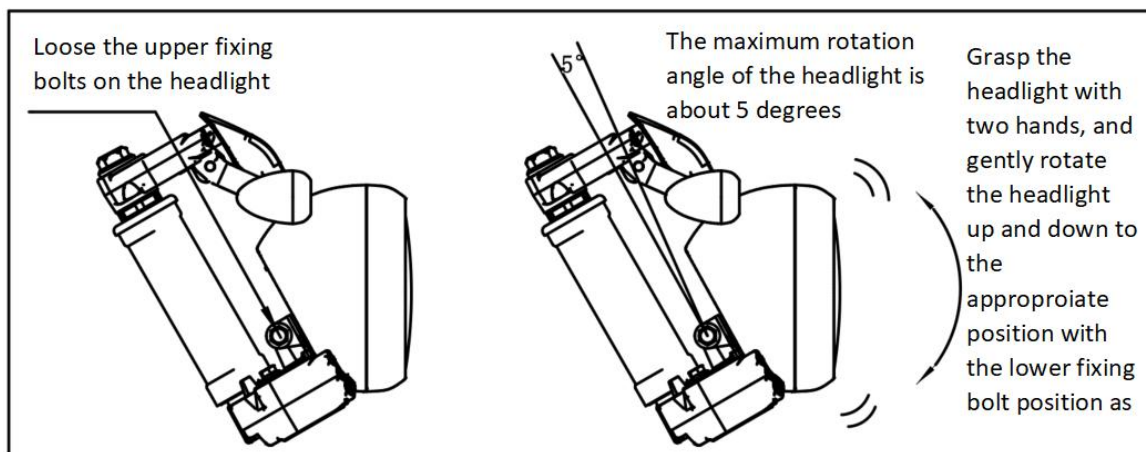

Figure 8
4.6. Headlamp pitch angle adjustment (Figure 8)